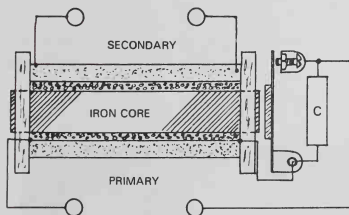

Fig. 18-27. Construction plan for the induction coil.
3. The coil ends can be either wood or plastic. A hold the size of the core is drilled in each end. The ends are cemented in place on the core. Fig. 18-27.